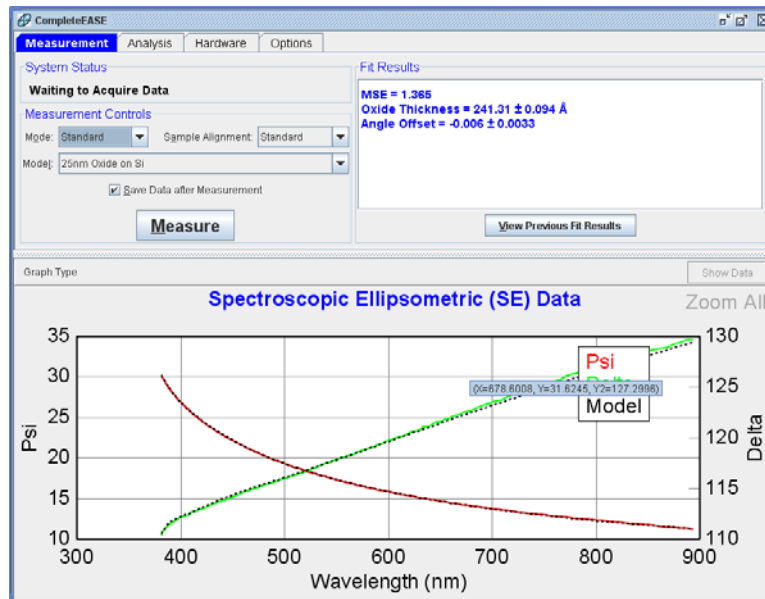

Figure 2-26. CompleteEASE screen after measuring 25nm reference wafer.
Click ‘Measure’ to begin the measurement. The alpha-SE system will first adjust the sample height (“Z-height”) to center the beam on the detector unit aperture, and then spectroscopic ellipsometric (SE) data will be acquired. After acquiring data, the selected model will be used to analyze the data, and the results will be presented in both graphical and text format, as shown in Figure 2-26.
The SE Data graph on the bottom half of the CompleteEASE screen displays the experimentally measured ellipsometric parameters “Psi” and “Delta” vs. wavelength as solid colored curves (red for the “Psi” data, and green for the “Delta” data). The black dashed curves are generated by the model analysis of the data. If the model “fits” the data, the black dashed model curves lie essentially on top of the experimental colored curves, as shown in Figure 2-26.